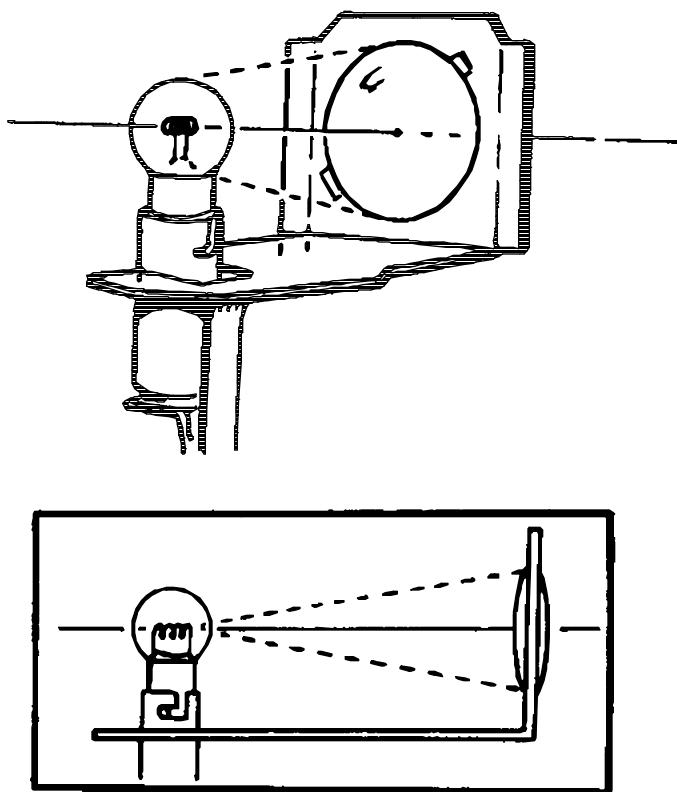

Figure 4-34 Sharpening Aim Light Image
- 2.12 The sharpest Aim Light image occurs when the bulb filament axis coincides with the AimLight optical axis. If the bulb filament axis is off, bend the base of the Bracket slightly with pliers, observing the effect on the image on the wall. (Fig. 4-34)